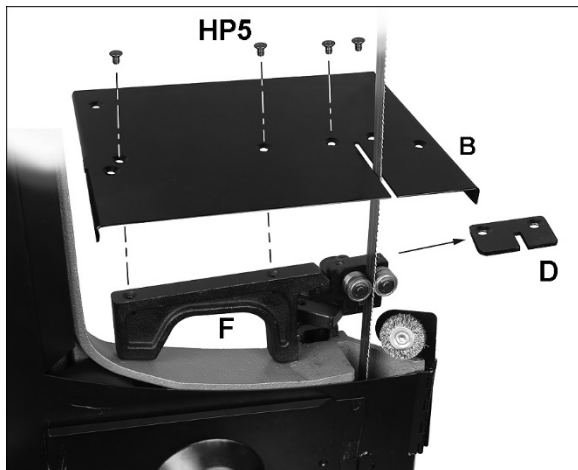

Figure 8-4: installing cutting plate
6. Place smaller support (F, Figure 8-4) onto groove of blade guide, and adjust height of blade guide until support sits level on bow frame, as shown (712D only).
7. Remove deflector plate (D).
8. Install table plate (B) and secure with four screws (for 712D) or two screws (for 712).